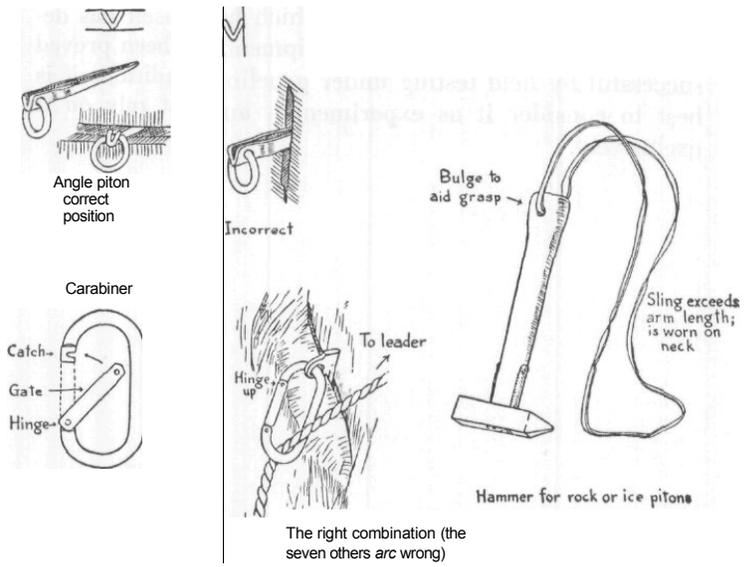

Fig. 3. Rock-climber's hardware, showing piton types in place.
Rock pitons.—Various types of pitons may be driven into cracks in the rock to provide a secure point on the cliff to which the rope may be hooked through the spring gate of a carabiner (see fig. 3). If the leading climber falls, he may then be held, pulley-wise, by a man below him. Successive pitons are driven as the climber moves upward. There are four basic types for rock, of which horizontals are most frequently used, verticals least, in a ratio of about 5 to 1: (1) vertical for cracks with flush sides, preferably vertical; (2) horizontal for flush or offset cracks, horizontal or vertical; (3) angle for wide, deep cracks, offset or flush, horizontal or vertical; (4) wafer for cracks that are thin, shallow and flush or with flared opening. A good piton will have a solid head to withstand repeated pounding. Rings, if any, should be securely welded. The metal should not be too hard, thus preventing the piton from "biting" well into the rock.